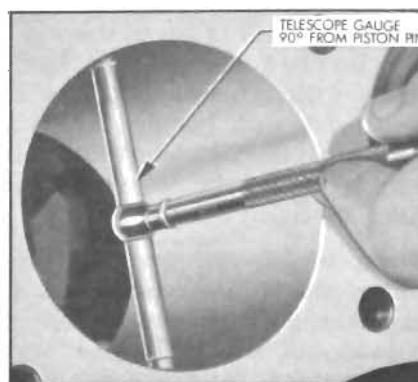

Figure 2-84—Checking Cylinder Bore
1. Expand a telescope gauge to fit the cylinder bore at right angles to the piston pin and between 1-1/2" and 2" from the top. See Figure 2-84.